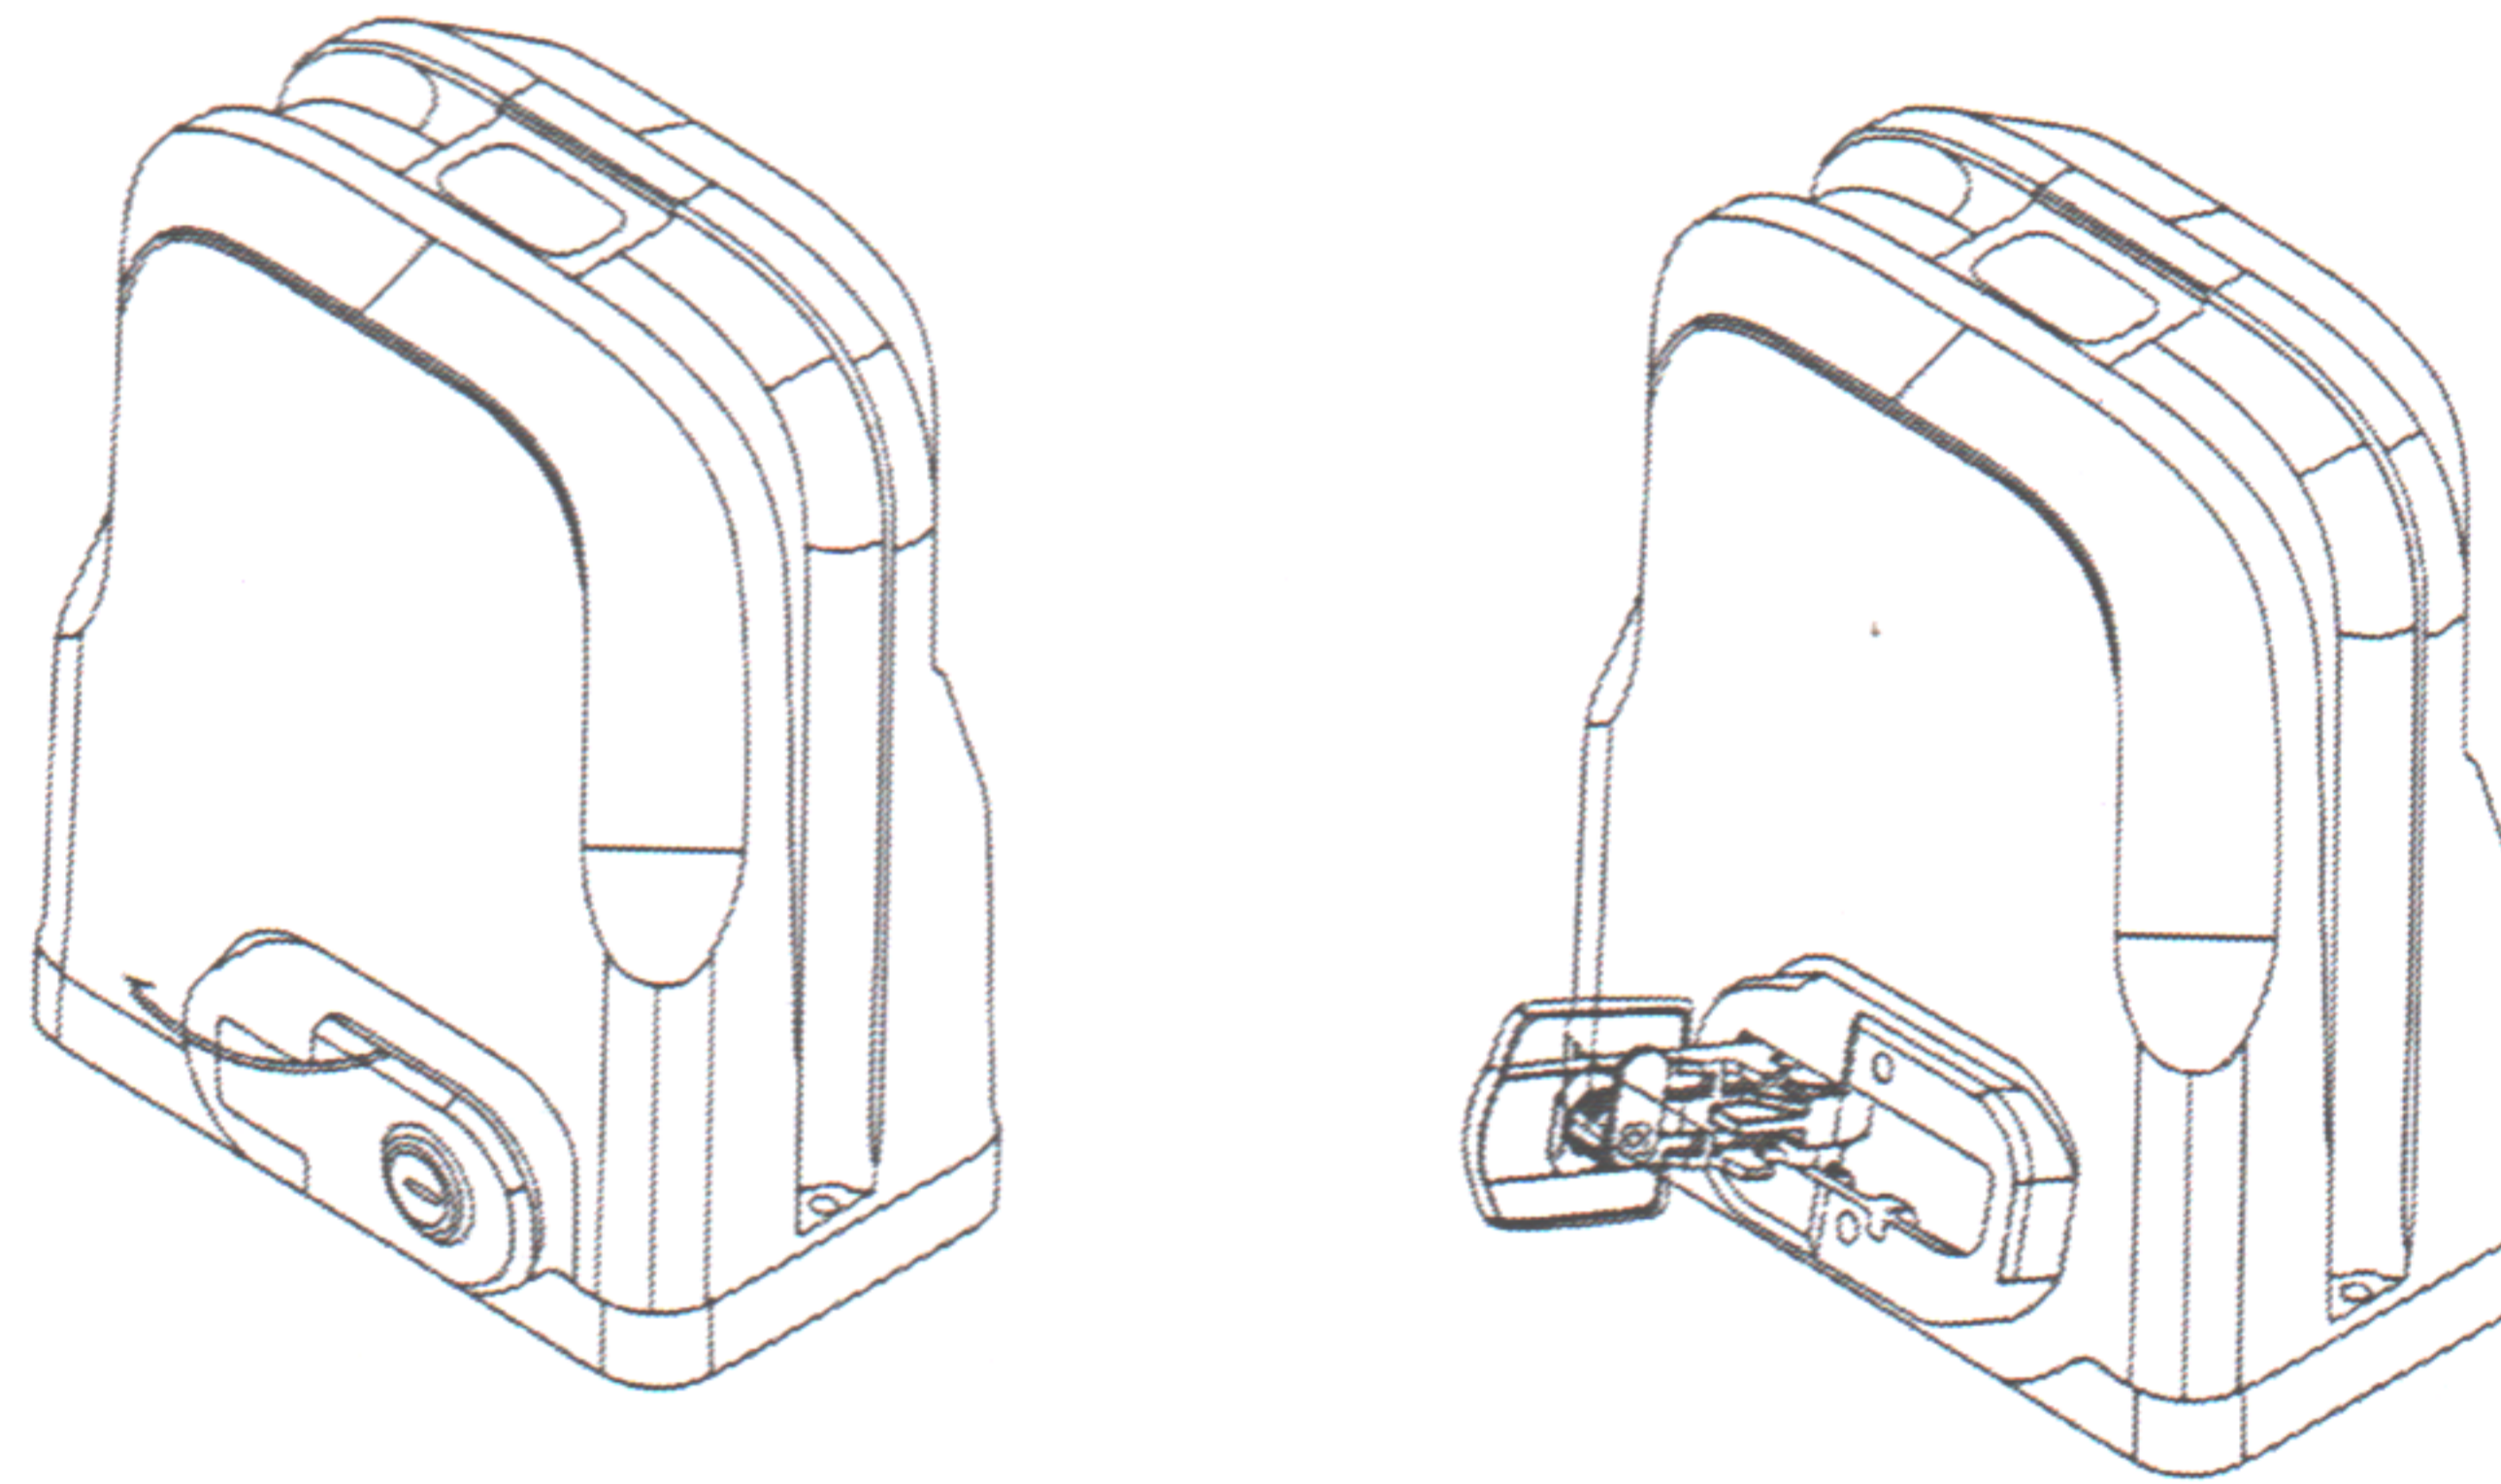

Figure 5: Turn on 90°
- c) Please unlock the main engine before installation, the unlock method is: remove the rubber key cover, insert the key, and open the manual release bar till it rotates by 90° as shown in Figure 5. Then turn the output gear and the gear can be rotated easily;